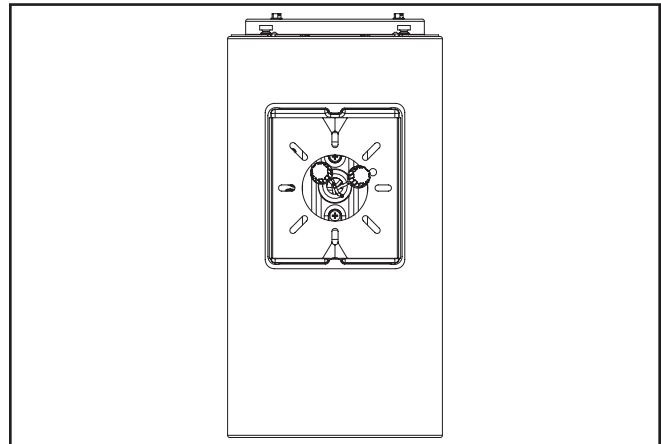

Figure 2.
1. Install wall mounting plate to splice box using splice box hardware (provided by others) and tighten to 17 IN/ LBS torque when using 8-32 screw (Figure 2.).